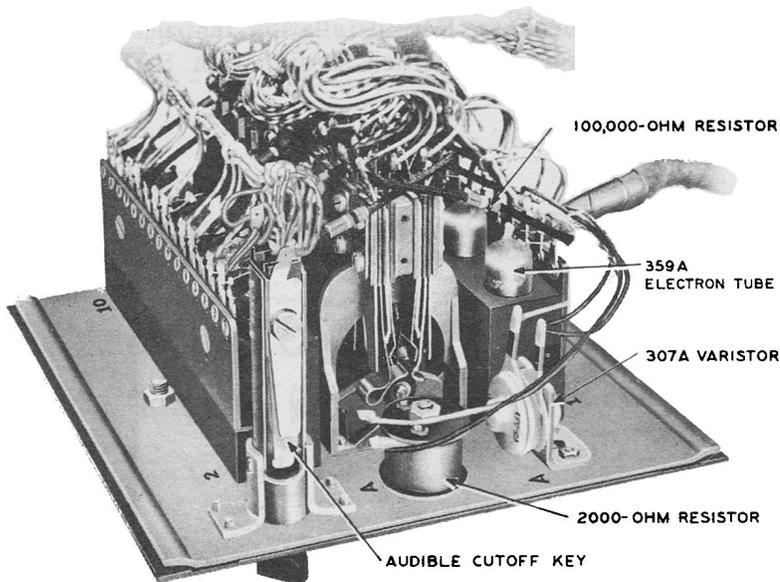

Fig. 3 — J53011A Key Box, Faceplate (Rear View)
2.03 The visual signal associated with each line is a 3-element, cold cathode tube which lights during the ringing interval. The third element of the tube provides a path for operating the common audible signal on the same ringing current which causes the lamp to light. Since these tubes have a long life expectancy, the lamp terminals are soldered to the local wiring (see Fig. 3).